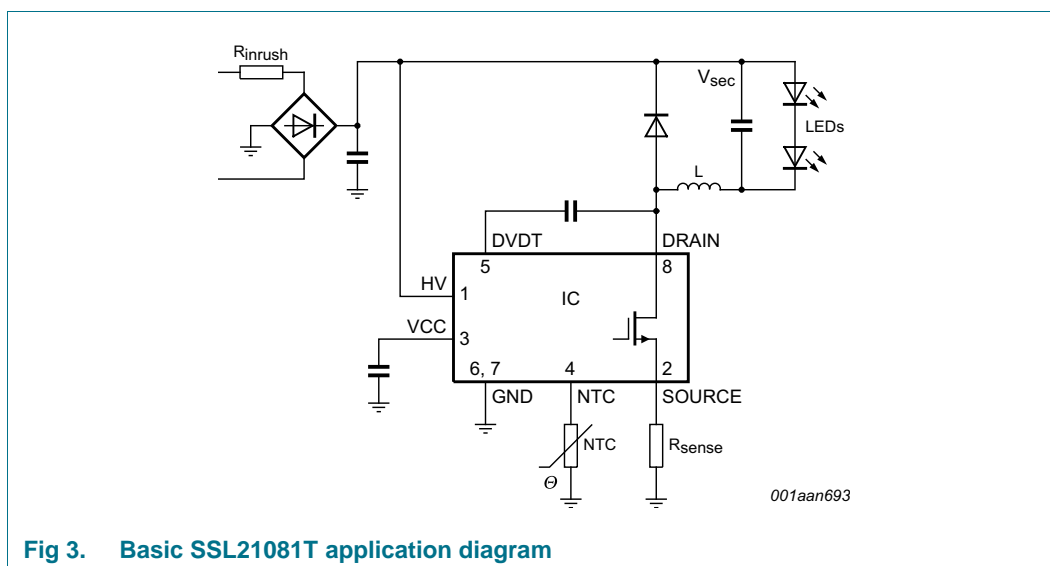
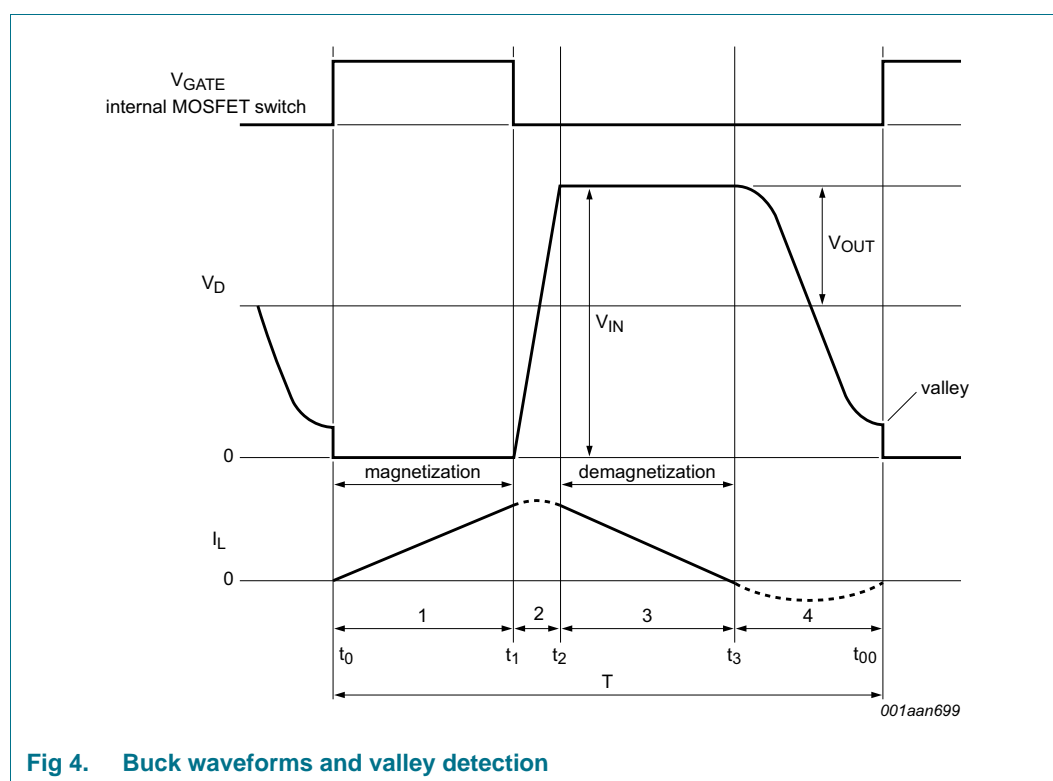

Fig 3. Basic SSL21081T application diagram
Fig 4. Buck waveforms and valley detection
- Low component count LED driver solution (see Figure 3):
The converter in the SSL21081T is a Boundary Conduction Mode (BCM), peak current controlled system. Figure 3 shows the basic application diagram. Figure 4 shows the waveforms. This converter type operates at the boundary between continuous and discontinuous mode. Energy is stored in inductor L each period that the switch is on. The inductor current I_L is zero when the internal MOSFET switch is switched on. Thereafter, the amplitude of the current build-up in L is proportional to $V_{IN} - V_{OUT}$ and the time that the internal MOSFET switch is on. When the internal MOSFET switch is switched off, the current continues to flow through the freewheel diode and the output capacitor. The current then falls at a rate proportional to the value of V_{OUT} . The LED current I_{LED} is almost equal to half the peak switch current. As soon as the inductor current I_L is zero, a new cycle is started.
A new cycle is started when the primary switch is switched on (see Figure 4). Following time t_1 , when the peak current is detected on the SOURCE pin, the switch is turned off and the secondary stroke starts (3). When the secondary stroke is complete and the coil current at t_3 equals zero, the drain voltage starts to oscillate around the $V_{IN} - V_{OUT}$ level. The amplitude equals V_{OUT} . A special feature, called valley detection is an integrated part of the SSL21081T circuitry. Dedicated built-in circuitry connected to the DRAIN pin, senses when the voltage on the drain of the switch has reached its lowest value. The next cycle is then started and as a result the capacitive switching losses are reduced.